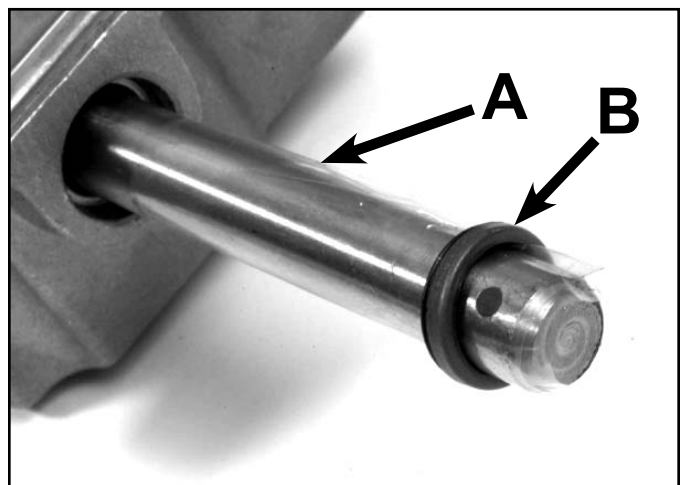

Fig 018
4. Using a seal protector, slide new seals down each side of the axle. Install the seal with the lip facing the transmission. The outer edge of the seal should be flush with the outside of the case. If a seal protector is not available, wrap a piece of cellophane around the axle (Fig. 018).